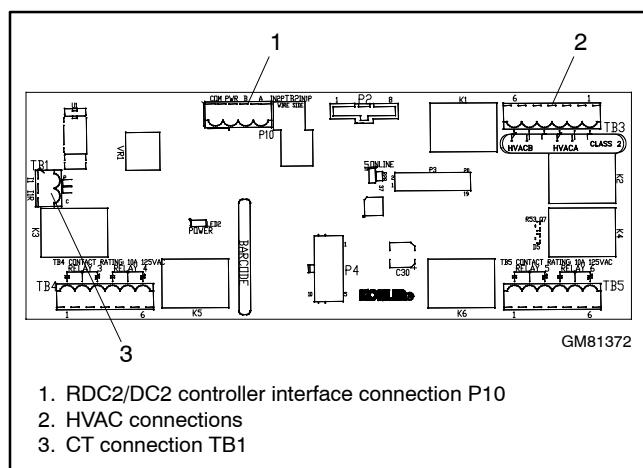
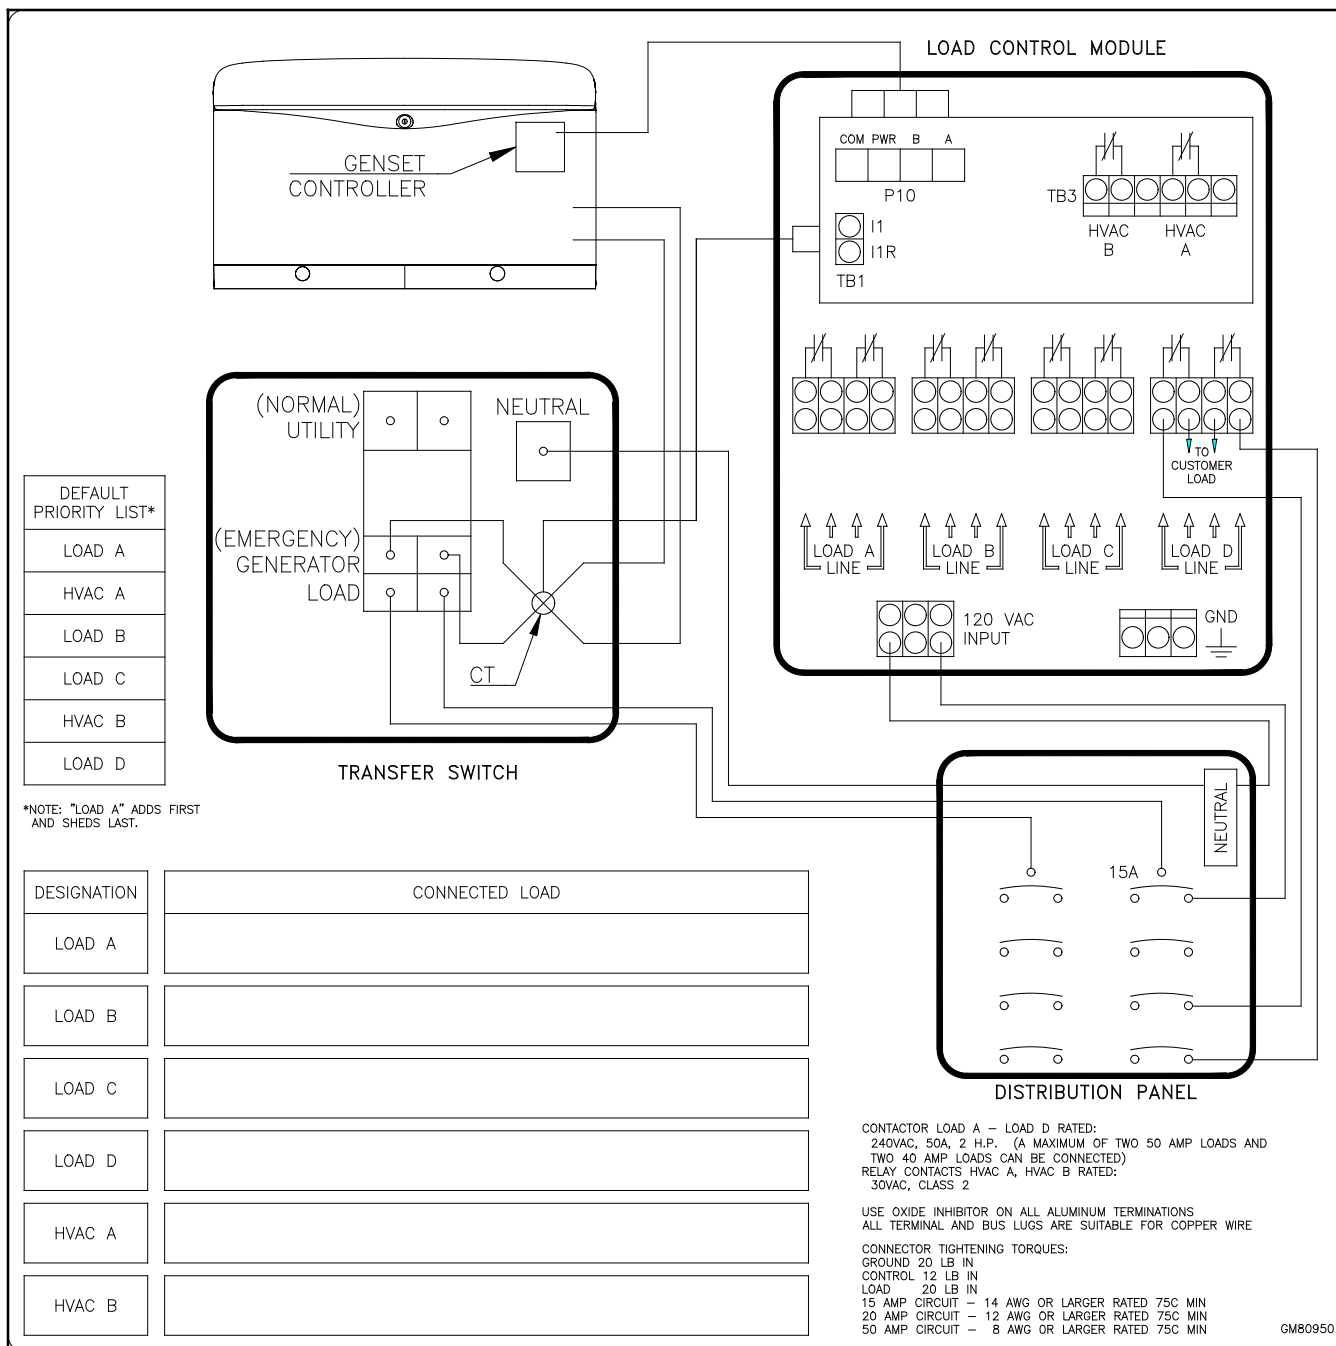

Figure 7 LCM Circuit Board Customer Connections
Figure 11 System Wiring Decal, GM80950-E
9. Connect the CT to connector TB1 on the LCM circuit board using customer-supplied wiring. See Figure 7 and Figure 11.
10. Connect the controller interface connection to 4-position terminal block P10 on the LCM circuit board. See Figure 7. See Section 2.5 for more information about the interface connections.
13. Write the names of the loads connected to each relay on the decal for future reference. For example, Load A may be a sump pump, and HVAC A may be the air conditioner. See Figure 11.
Be sure to install the current transformer on the emergency source lines as described in the installation procedure. Connect the CT leads to TB1 on the LCM circuit board. See Figure 7 and the wiring diagrams in Section 8.